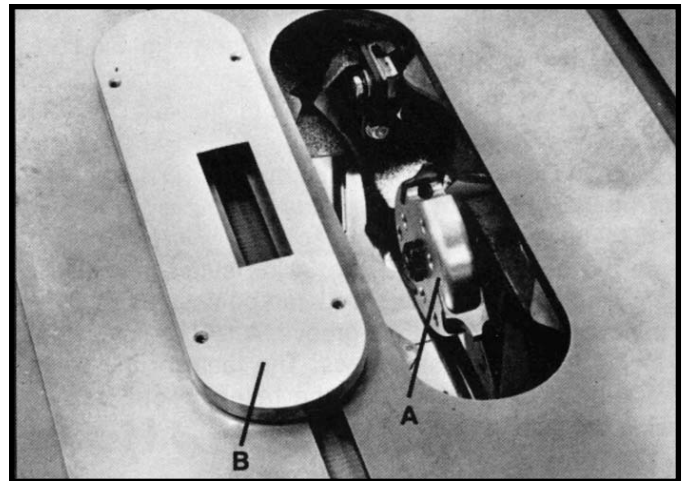

Fig. 52
The moulding cutterhead (A) Fig. 52, is assembled to the saw arbor in the same manner as the saw blade. The guard, splitter and anti-kickback finger assembly cannot be used when moulding and must be removed from the saw. In place of the guard, auxiliary jigs or fixtures and push sticks and featherboards should be used. Also, the accessory moulding cutterhead table insert (B) Fig. 52, must be used in place of the standard table insert.